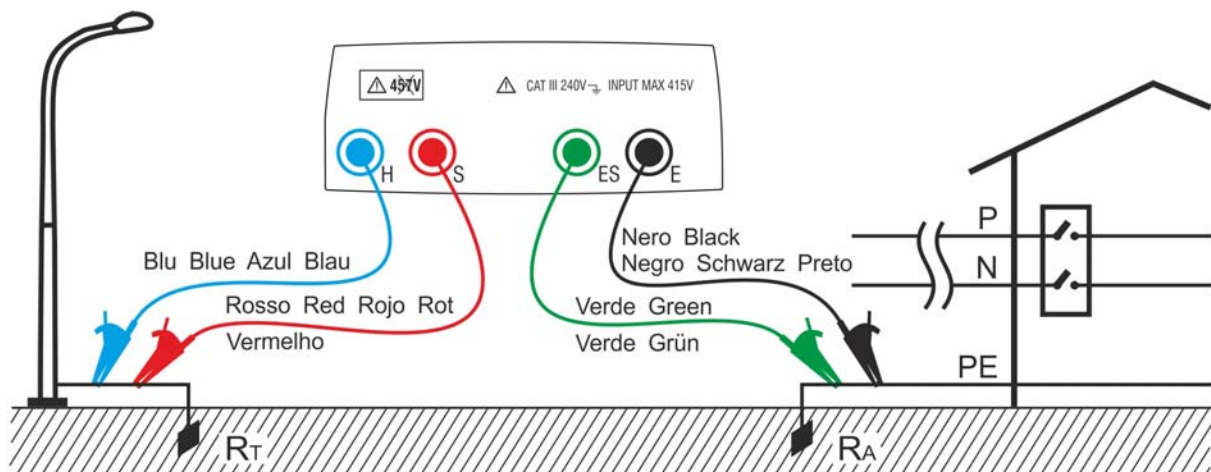

Fig. 4: Two-wire earth resistance measurement using an auxiliary rod
In Fig. 4 a lamp post is used as auxiliary rod, however any metal body driven into the ground can be used provided that the above mentioned requirements are met.
The instrument displays the sum value of  $R_A + R_T$  as result (see Fig. 4 and Fig. 5). Therefore the measurement achieved is the closer to  $R_A$  (prospective value) the more negligible is the value  $R_T$  of the auxiliary rod with respect to  $R_A$  itself. In addition the measurement will be increased “for safety sake” by  $R_T$ , i.e. if  $R_A + R_T$  results to be coordinated with protective conductors,  $R_A$  alone will be far more coordinated
6. Connect crocodiles to the auxiliary rods and to the installation under test (see Fig. 4 and Fig. 5)